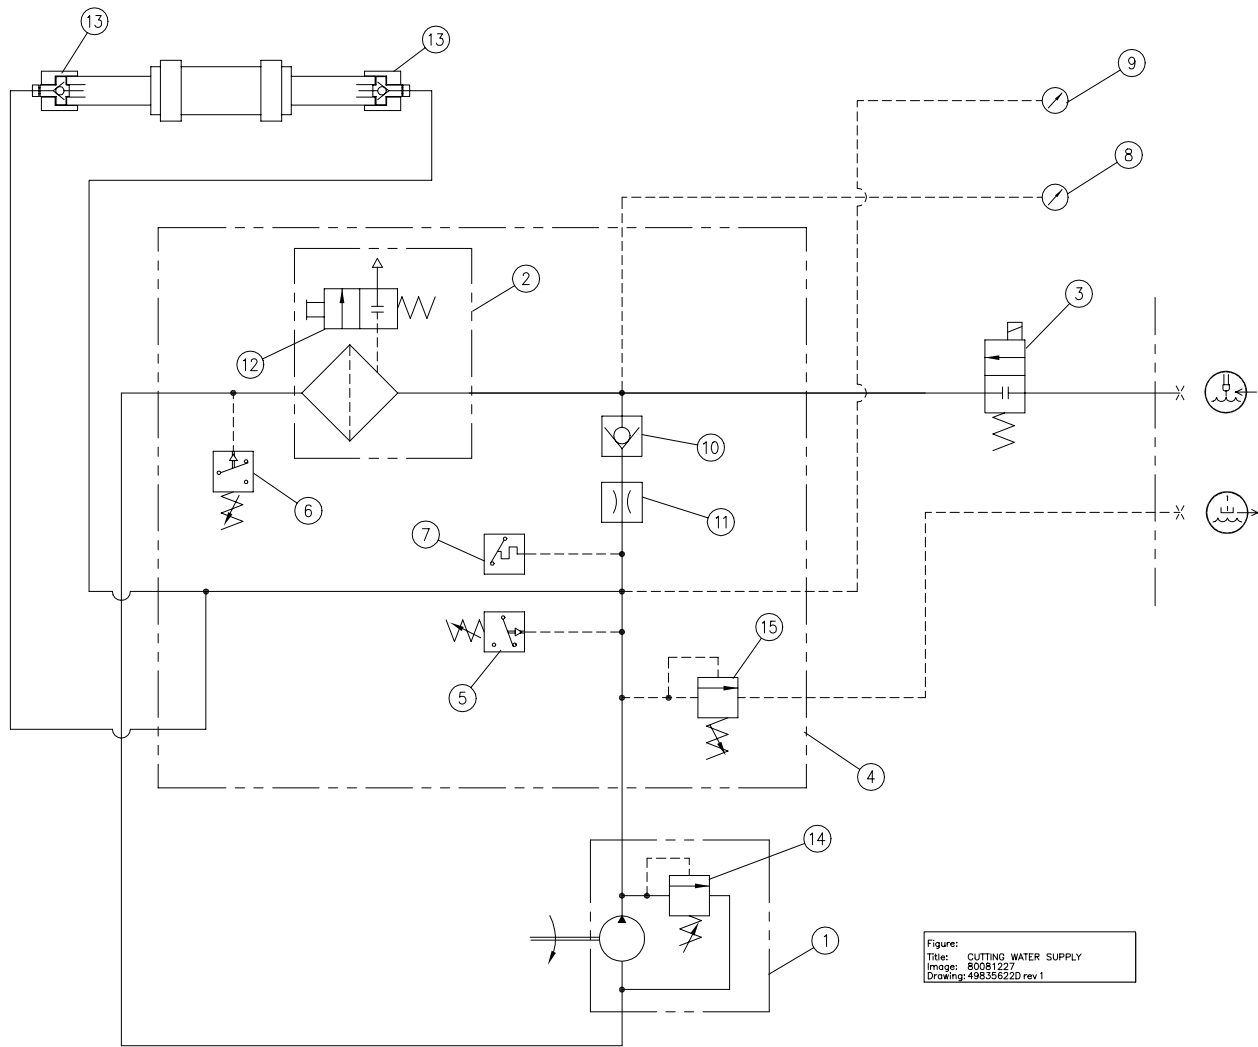

Figure 6.4 Cutting Water Supply System
6.2 Cutting Water Supply (See Figure 6.4)
6.2.2 Operation (See Figure 6.4)
Replace water filter when booster pump inlet pressure drops below 30 psig pressure switch (6), Figure 6-4 with 30 psig or greater on gage (8) Figure 6-4.